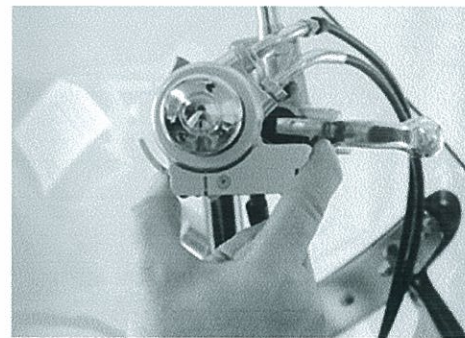

Figure 17
- 3.6 Check the operation of the throttle return at this time. It should return normally with no restrictions. Engage and disengage the cruise control 3 or 4 times by squeezing the Clamp together as shown (**Figure 17**) and then releasing it with the Manual Release Lever(19). Adjust the position of the Clamp Ring(18) until it is aligned and centered in the groove of the Slip Ring(1). Check the throttle return again, it should return normally without restriction.